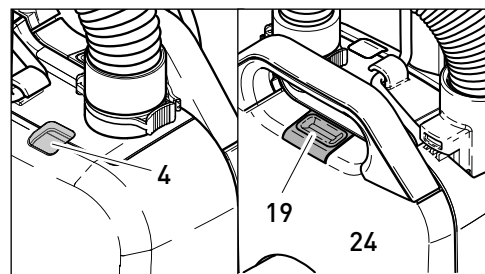
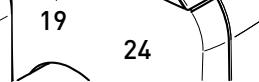
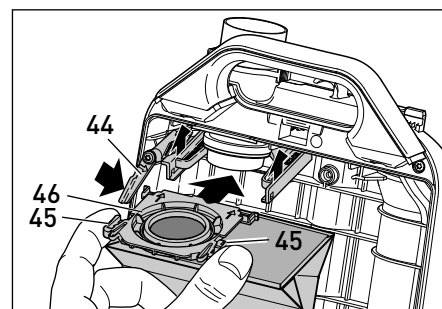

Figure 15
Figure 16
Figure 17
When the “bag full” warning indicator (4 - figure 15) turns orange, and there is not a clog, change the filter bag. To remove the filter bag, push the cover release button (19 - figure 16) and lift the cover (24) up to remove. Push the lever over to the right (44 - figure 17). Squeeze the clamps (45) on both sides of the filter bag sealing plate (46), slide the plate from the holder and push the cap on to seal the bag. Slide the sealing plate (46) of a new bag into the holder and push it in until it locks into place. You may find it convenient to store the bag cap inside the bag housing below the filter bag. Make sure the bag is tucked in at the bottom. To replace the cover, insert the projections on each side of the bottom of the cover into the corresponding slots at the base of the housing. Close the cover ensuring that the cover “clicks” shut.
The pre-motor microfilter needs to be changed when it becomes extremely dirty or clogged with dust, or after approximately 20 filter bags have been used. To change the microfilter, remove the bag housing cover (24) by pushing the cover release button (19 - figure 16) and lifting the cover up and out. Grasp the loop (47 - figure 18) at the bottom of the filter and slide the filter out. To replace, lift the metal bar (48 - figure 18 inset) and slide the new filter in using the tracks as guides. Replace the cover and snap it in place.